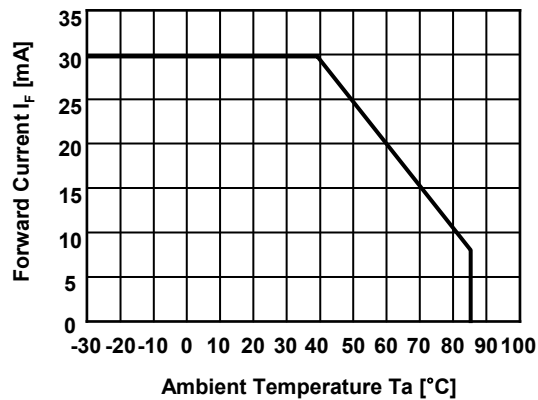

Fig. 2-1
1. Applies to each LED individually. Please refer to the Fig. 2-1 for allowable forward current.